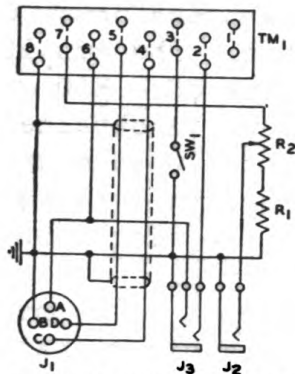

Fig. 9
c. Control Box BC-606-D - (See Fig. 9 For Circuit Diagram) - Control Box BC-606-D is used in a system to enable one member of the vehicle personnel to plug his headset and microphone into the jacks provided and thus be connected to the interphone system. The volume potentiometer is wired across the incoming signal line. The single pole, single-throw switch when thrown to the INT side, grounds the cathode circuit of the oscillator tube (in the interphone amplifier) and causes an audio signal to be set up in the radio output circuit when the amplifier is energized by the closing of the "press-to-talk" switch on the microphone. A four-contact receptacle is provided for a magnetic microphone, but as this type of microphone is not used on Interphone Equipment RC-99, this receptacle is left covered with the screw cap provided.